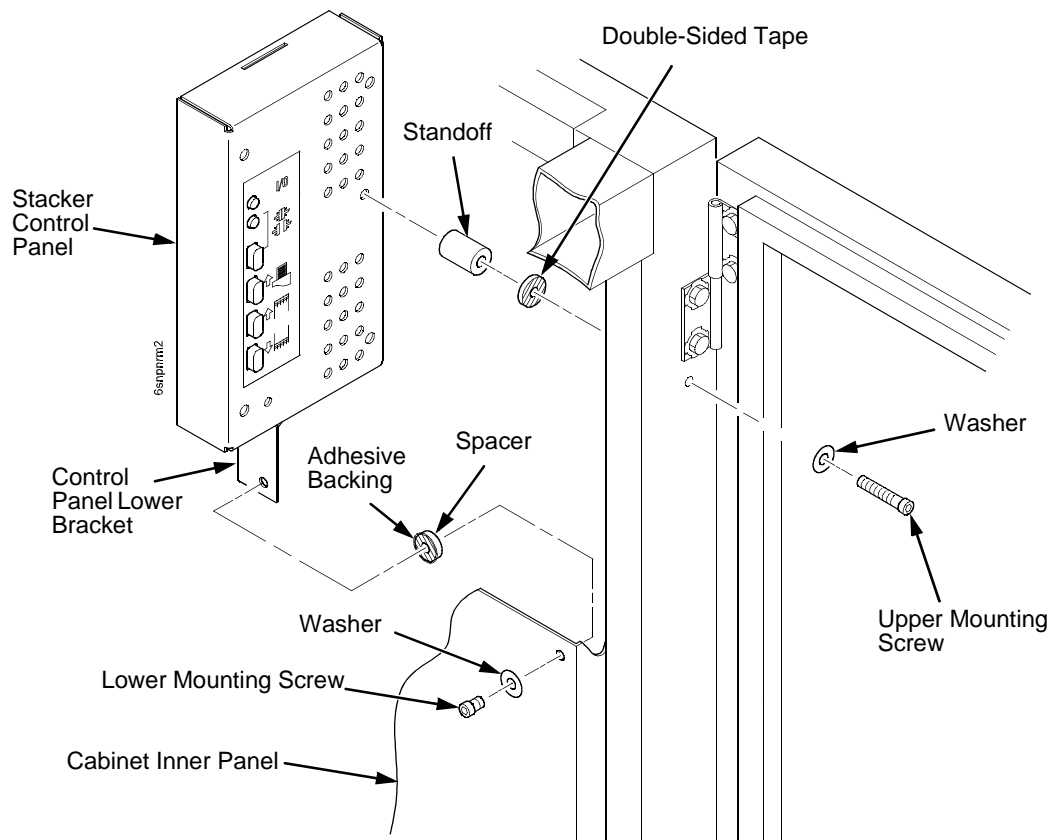

Figure 82. Installing the Stacker Control Panel
28. Apply the double-sided tape to one end of the control panel standoff. Remove the paper backing and hold the standoff inside the cabinet while you insert the upper mounting screw and washer through the hole in the frame. Use the screw as a guide to align the standoff with the hole, then press the standoff against the inside wall and push the upper screw in as far as it will go. Now maneuver the control panel into position and install the upper mounting screw finger tight in the control panel. (Figure 82.)
- Peel the backing off the spacer adhesive. (Figure 82.)
- Align the spacer with the holes in the lower bracket and inner panel. (Figure 82.)
- Press the spacer adhesive against the inner panel. (Figure 82.)
30. Install the lower mounting screw and washer. Tighten the upper mounting screw. (Figure 82.)
- Rear Control Panel Assembly (Phase III): 174780-001 (Figure 82, page 355)